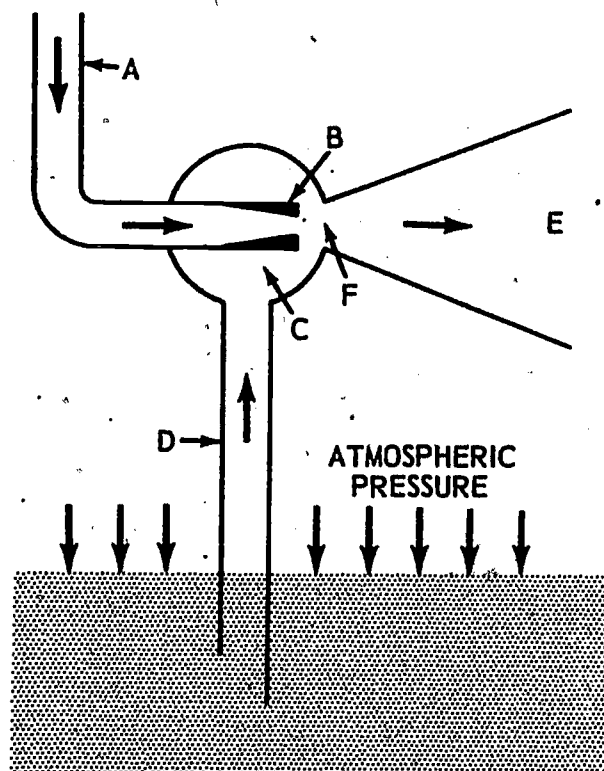

Figure 10-11.—Jet pump (ejector type).
A simple jet pump of the ejector type is shown in figure 10-11. In this pump, steam under pressure enters the chamber (C) through a pipe (A) which is fitted with a venturi-shaped nozzle (B) having a reduced area which increases the velocity of the steam. The fluid in the chamber at point F, in front of the nozzle, is driven out of the pump through the discharge line (E) by the force of the steam jet. The size of the discharge line increases gradually beyond the chamber to decrease the velocity of the discharge. As the steam jet forces some of the fluid from the chamber into the discharge line, pressure in the chamber is lowered and the pressure on the surface of the supply fluid forces